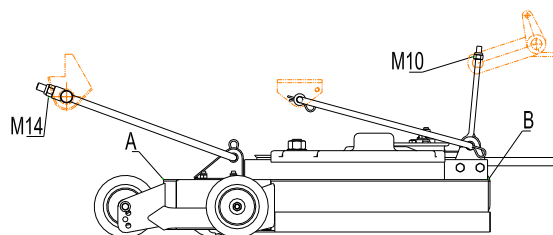

FIG 7
e) See FIG 7. Position A is located in middle front of the mower deck. Position B is located behind the mower deck on each side.